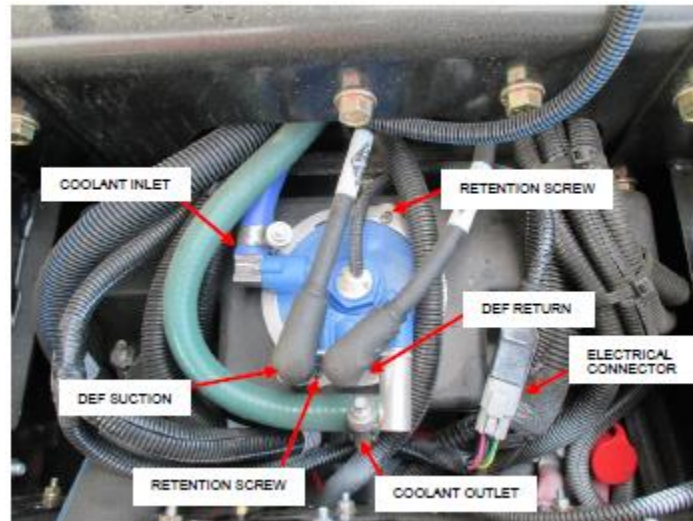

Figure 3.1
4. Disconnect coolant hoses, DEF hoses and electrical connector from MFHU on top of surge tank. - *Reference Figure 3.1*